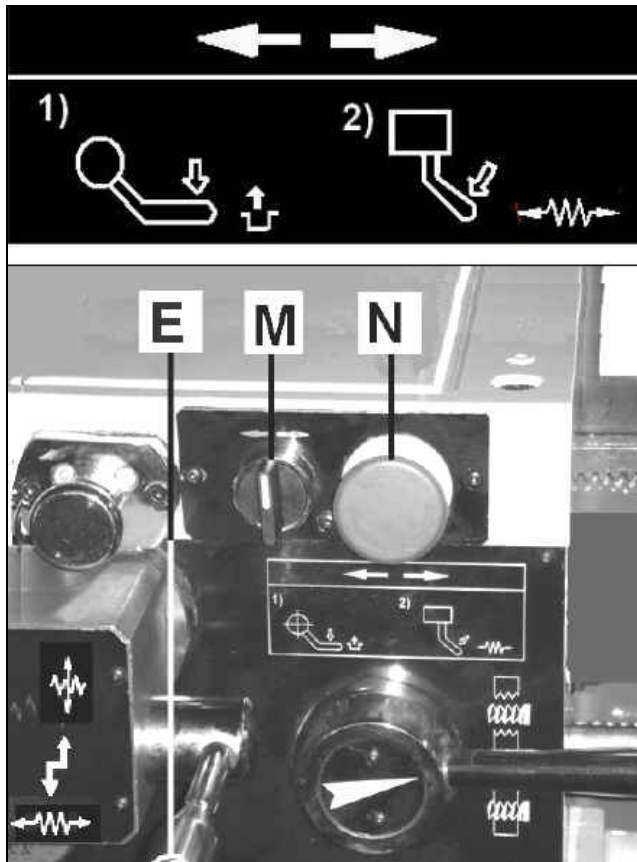

Fig 17
- Engage the longitudinal feed set lever (E, Fig17) to the  position (push left and down).
- Rotate the rapid feed switch (M, Fig 17) in the desired direction